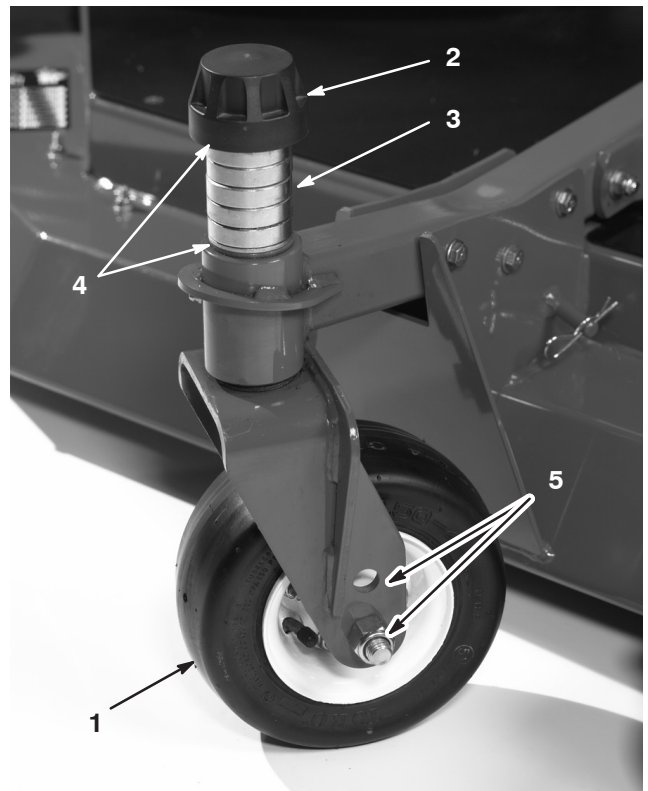

Figure 84
- Remove the tensioning cap from the spindle shaft and slide the spindle out of the castor arm (Fig. 84). Reposition the shims, as required, to raise or lower the castor wheel until the cutting unit has the correct pitch.